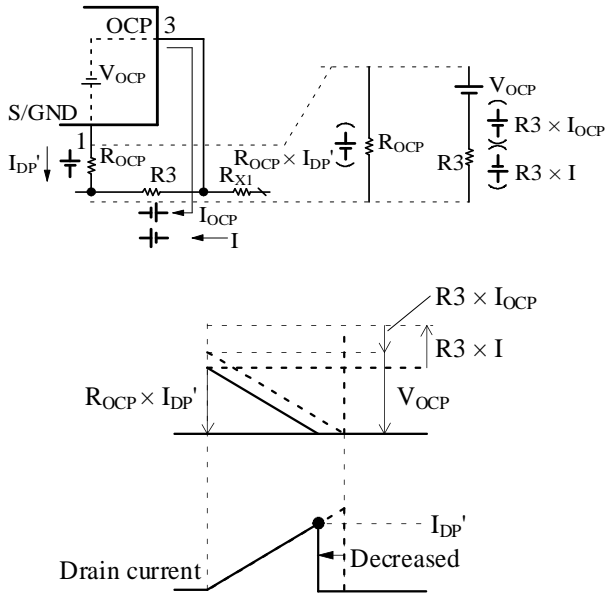

Figure 9-34. With OCP Input Compensation Function
When V_{ROCP}' with reference to the S/GND pin becomes equal to the sum of V_{OCP} , the voltage across R3 (i.e., $R3 \times I_{OCP}$), and $R3 \times I$, OCP is activated (see Figure 9-34).
The peak drain current during OCP operation with OCP input compensation circuit, $I_{DP(OCP)'}$, is expressed by Equation (11) obtained from Figure 9-34: